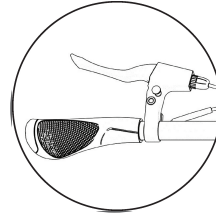
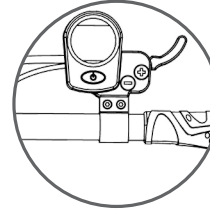

FIG 1. HAND BRAKE LEVER
FIG 2. THROTTLE
2. The Hand brake lever and throttle (Fig 1 and Fig 2) are adjusted downward for shipping. Adjust the throttle and hand brake lever to your desired location, then tighten the screws using the 2 included Allen wrenches.